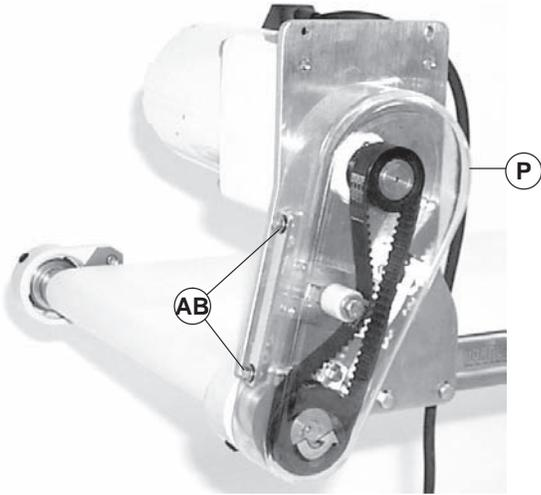

Figure 8
Do not over-tighten screws (Figure 8, item AB).
- Install cover (Figure 8, item P) and tighten four (4) screws (AB) to 35 in-lb (4 Nm).